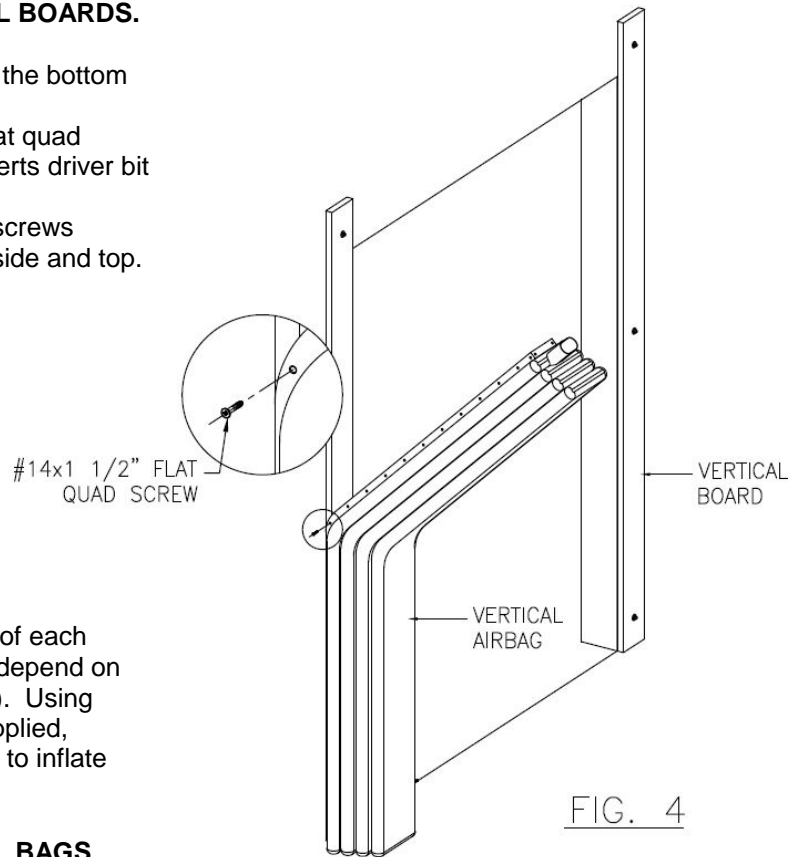

FIG. 4
- Fasten each corner using no. 14 x 1 1/2" flat quad screws. Tighten with #3 Philips or #3 Roberts driver bit (Fig. 4).